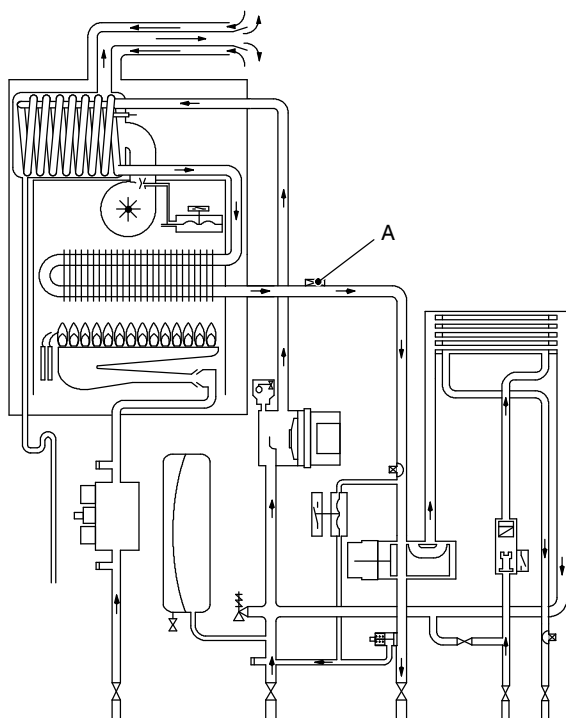
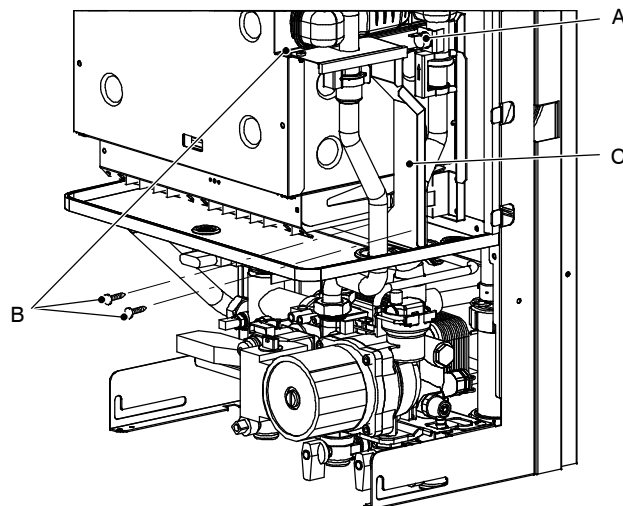

Fig. 78
Fig. 79
- 3 Remove the plate C (see Fig. 79 on page 39).
The safety thermostat *A* in Fig. 78 and Fig. 79 is a device that senses the temperature of the primary circuit water which flows in the outlet pipe of the primary heat exchanger.
- 2 Remove the screws *B* and the plate *C* (Fig. 79).
- 2 Remove the screw *B* and the plate *C* (Fig. 79).